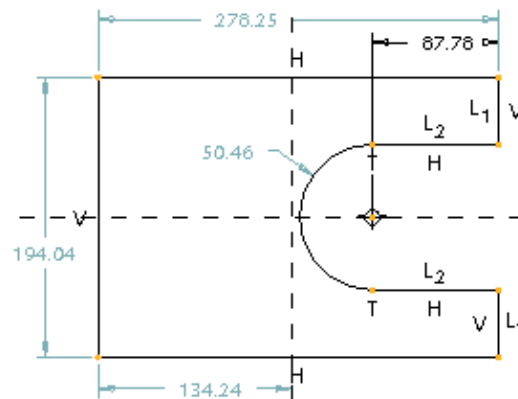

Figure 3-46 Dimension added to the sketch
2. Select the center of the arc and the upper right vertical line and place the dimension, as shown in Figure 3-46.
If the dimensions in your sketch are different from those shown in Figure 3-46, add the missing dimensions and delete the dimensions that are not required.
You need to modify the dimension values of the sketch. You will notice that the default dimensions shown in Figure 3-46 also include the length and width of the rectangle and the distance of the sketched section from the selected references. It is recommended that you draw the base feature symmetrical with the other two datum planes. Hence, the distance from the **RIGHT** datum plane is 100 (200 divided by 2 is equal to 100).